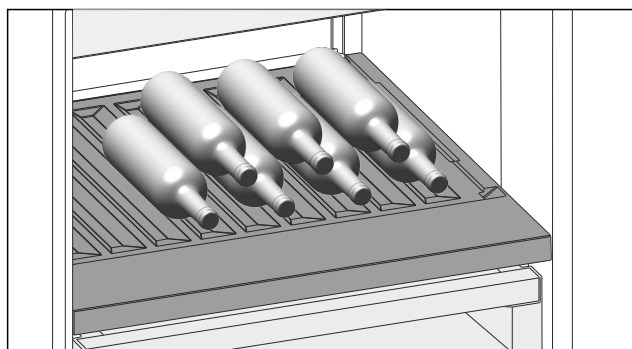

Fig. 150
- Place bottles in the back row with their bases against the back wall. (see Fig. 150)